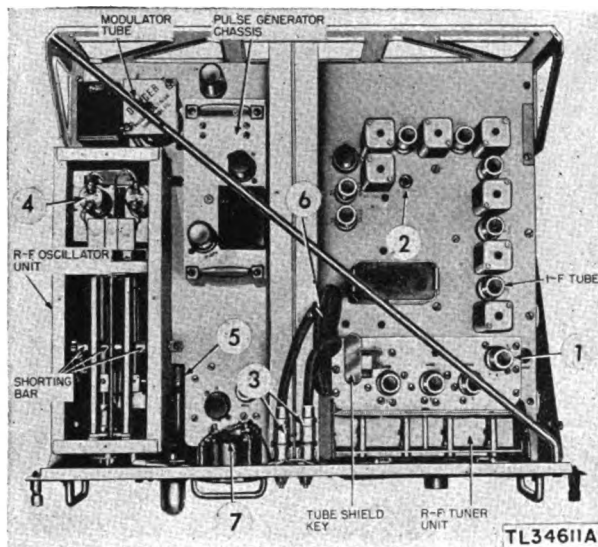

Figure 24. Receiver and Transmitter BC-1267-A—top view.
(5) Clean tuning indicator ④ front and the dial glass ③.
(6) Check pilot-light receptacle ② for firm mounting.
(7) Check mounting of handles ⑤ for firmness. ITC. TOP OF CHASSIS (fig. 24).